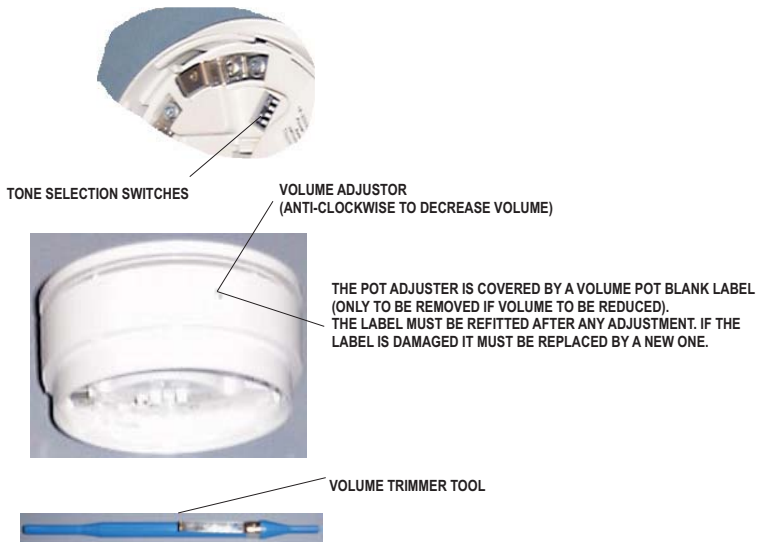

FIG.3 FC430SB Sounder Base
- Tone – using the 4-way DIL switch (Fig. 3 and Table 1 refer).
- Volume – using the trimmer tool (FC490VA) (Fig. 3 refers).